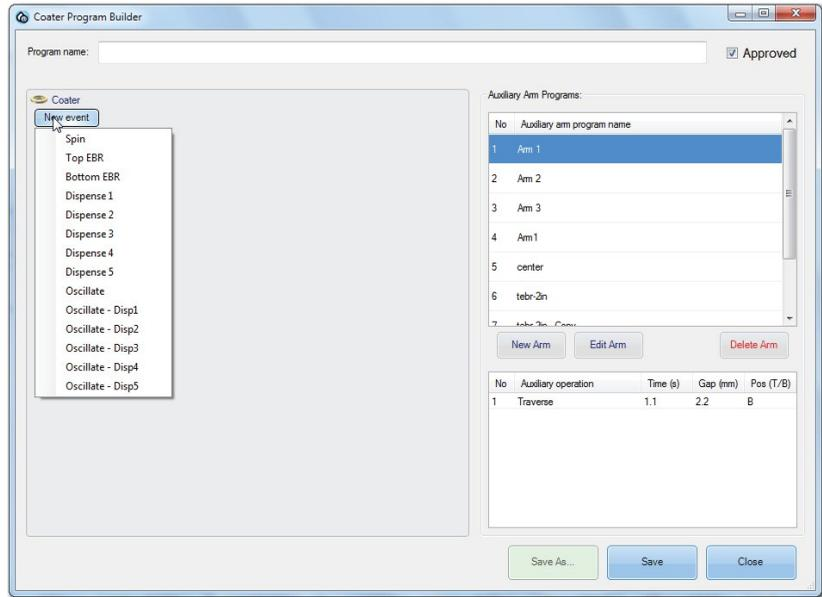

FIGURE 3-18: Creating a new coater program
- Click a module. (For illustration purposes, we select Coater.) The Coater Program Builder dialog box opens. See Figure 3-18.